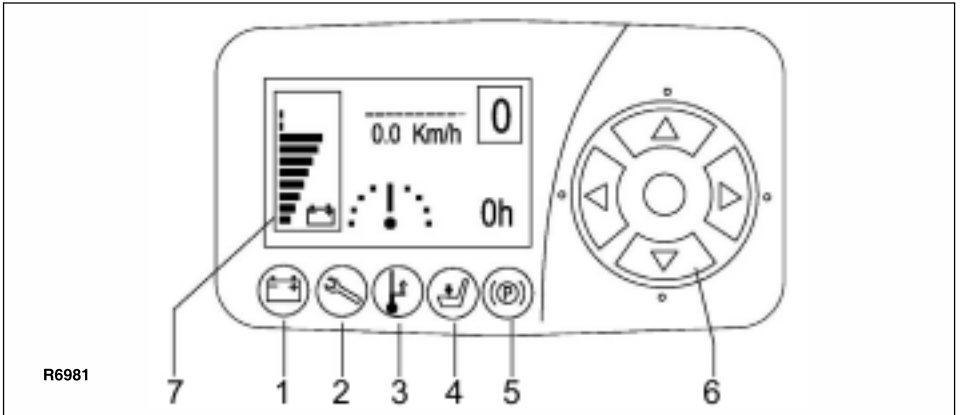

Figure 5 Instrument Panel
LOW BATTERY ALARM LED (1, Figure 5)
FAULT ALARM LED (2, Figure 5)
When a fault is detected, this LED will light. The display (7, Figure 5) will display the warning and fault indication. Report alarm to the designated authority and do not use the vehicle until corrected by a qualified mechanic.
TEMPERATURE ALARM LED (3, Figure 5)
DRIVE PEDAL ALARM LED (4, Figure 5)
BRAKE ALARM LED (5, Figure 5)
FUNCTION KEYS (6, Figure 5)
DISPLAY (7, Figure 5)
The vehicle can be operated in two driving modes, high speed or crawl speed. Use the “down” function key (6, Figure 5) to switch the driving mode:
There are four speed ranges available in both the high speed driving mode and the crawl speed driving mode. Use the “left” function key (6, Figure 5) to select the desired mode. “1” indicates the slowest speed while “4” indicates the highest speed.
5. Adjust the driving mode (4, Figure 6) using the “down” key (6, Figure 5).
6. Select the speed mode (5, Figure 6) using the “left” function key (6, Figure 5).